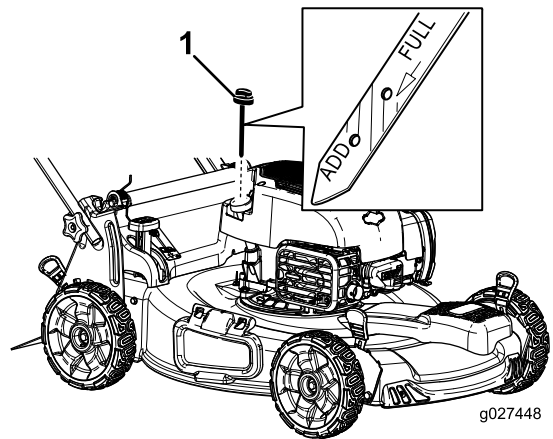

Figure 4
2. Remove the dipstick (Figure 4).
3. Slowly pour oil into the oil fill tube until the oil level reaches the Full line on the dipstick (Figure 4). **Do not overfill.**